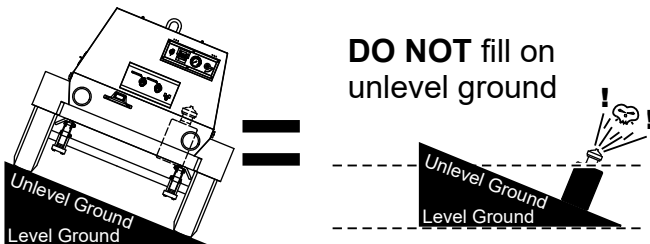

Figure 15. Only Fill On Level Ground
1. **Level Tank** — Make sure the fuel tank is level with the ground. Failure to do so will cause fuel to spill from the tank before reaching full capacity (Figure 15).